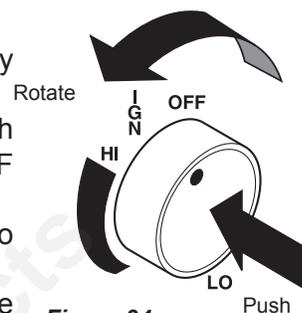

Figure 34 -
6. From OFF position, push in gas control knob slightly and turn counterclockwise to the IGN position. Figure 34. Push in and hold control knob for 5 seconds.